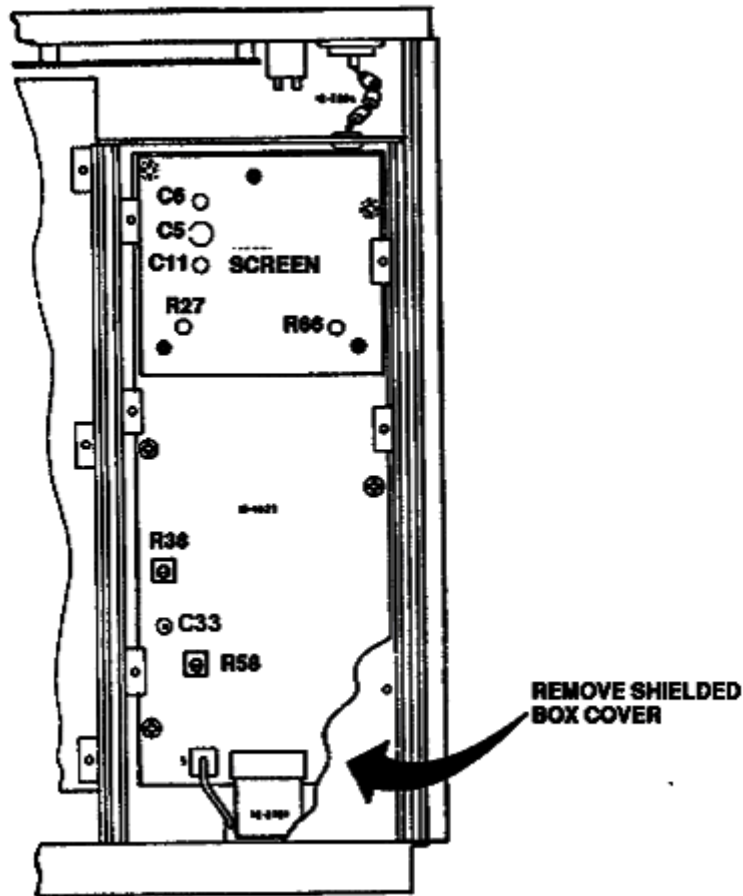

Figure 2. View of underside of module assembly.
³Figure 2.
(1) Set calibrator output for an initial 1.000V, 1kHz wideband output. Adjust calibrator for TI indication equal to the value recorded in table 3 for 1.000V, 1kHz, to establish a 1 kHz reference. Press calibrator **NEW REF** pushbutton.
(2) Set calibrator frequency to 10 MHz and adjust A3C33 fig. 2 for value recorded in table 3 for 1.000V, 1 kHz. Repeat steps 8 a (4) through (6) above (R).